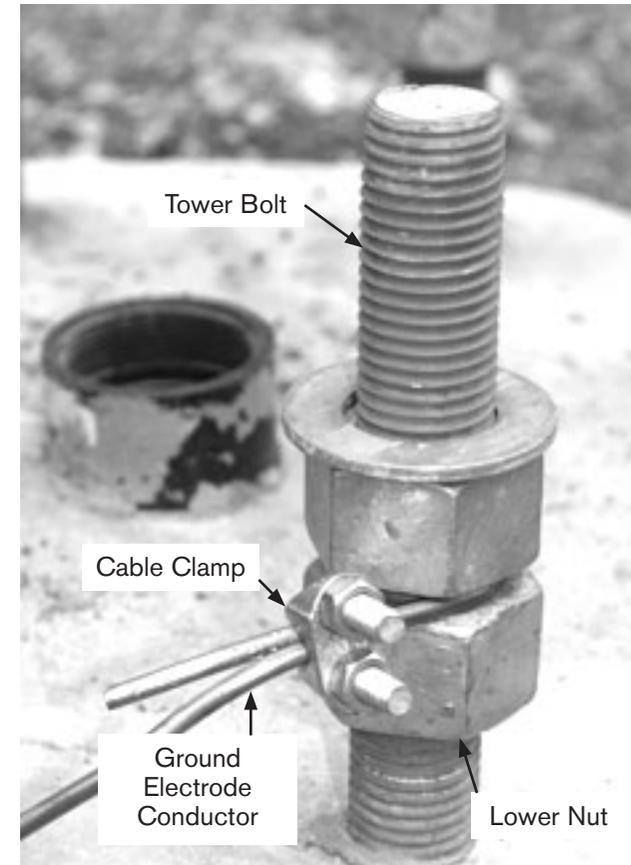

Fig. 3 Tower foundation bolt.
- c)** Take one end of the grounding conductor and loop it once around the tower bolt containing the extra nut, between the upper and lower nut. Generously apply joint compound to the grounding conductor and cable clamp in the area of attachment. Secure the conductor with a cable clamp around the loop so that it just clears the tower nuts and keeps the loop snug around the tower bolt (see fig. 3). The cable clamp is required so that the ground wire does not slip out from between the nuts when the lower nut is tightened.
- d)** Ensure that surfaces of the lower and upper nuts facing each other are free of dirt and have very clean surfaces. If necessary, wash and clean these surfaces. This is essential for a good electrical connection between the ground conductor and the tower. Tighten the lower nut towards the upper nut applying sufficient torque (68 N-m minimum) to securely clamp the grounding wire (see **Fig. 3**).